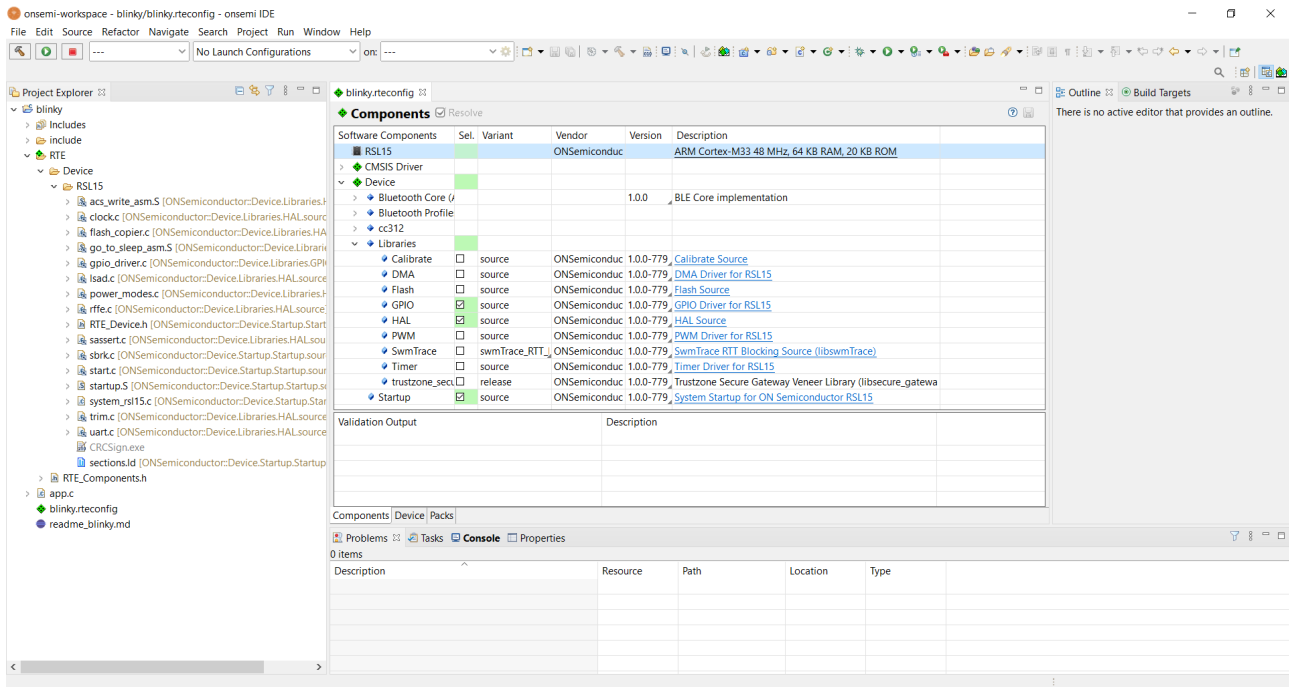

Figure 8. RTE Configuration for the Blinky Example Project in the onsemi IDE
- The C/C++ perspective opens and displays your newly copied project. In the **Project Explorer** panel, you can expand your project folder and explore the files inside your project. Double-click on the file names to open them. In the Components view, the *blinky.rteconfig* file displays software components. If you expand **Device** > **Libraries** in the Components view, you can see the **HAL** library and the **Startup** components selected for *blinky*. (See the "RTE Configuration for the Blinky Example Project in the onsemi IDE" figure (Figure 8).)